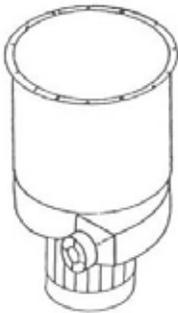

FIG. 4
4. Turn the main frame housing with motor upside down. Mount the main frame housing to the collector support frame with 4 hex head screws $5/16'' \times 1/2''$ and washers. (Fig 4)